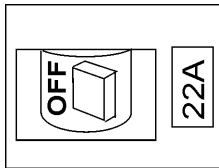

Figure 10. Main Breaker (OFF Position)
2. **NEVER start** the engine with the **main circuit breaker** in the "ON" position. Place the main circuit breaker (Figure 10) in the **OFF** position.
3. Place the **choke lever** (Figure 10) in the "OPEN" position if starting a **warm engine** or the **temperature is warm**.
- Place the **main circuit breaker** (Figure 10) in the **OFF** position.